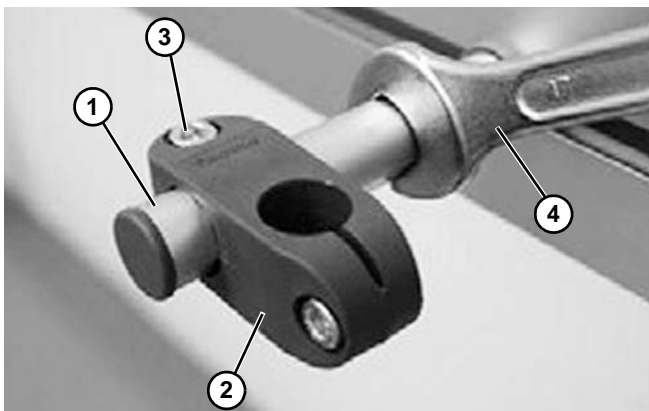

Figure 90
2. Attach the guide rail (Figure 90, item 1) to the clamp (Figure 90, item 2). Tighten the screw (Figure 90, item 3). Remember, do not over tighten the screw.
3. Use a wrench (Figure 90, item 4) to tighten the guide rail to the frame. Remember, do not over tighten the screw. Install remaining brackets.